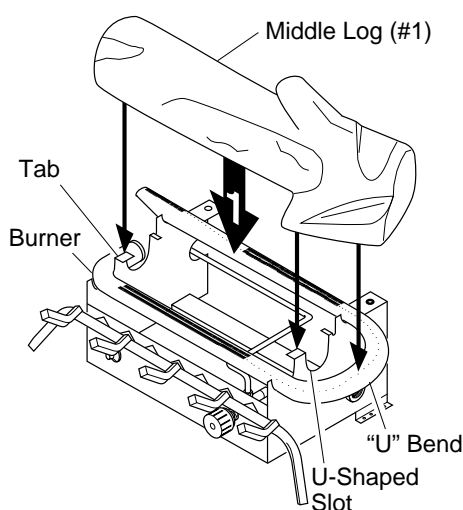

Figure 20 - Installing Middle Log (#1)
1. Place the base of the middle log (#1) in the U-shaped slots of the grate base. The cutout on the right of the middle log should fit over the burner (see Figure 20). Make sure the front of the middle log is resting on the tabs of the grate base and the cutout area is centered over the burner "U" bend.